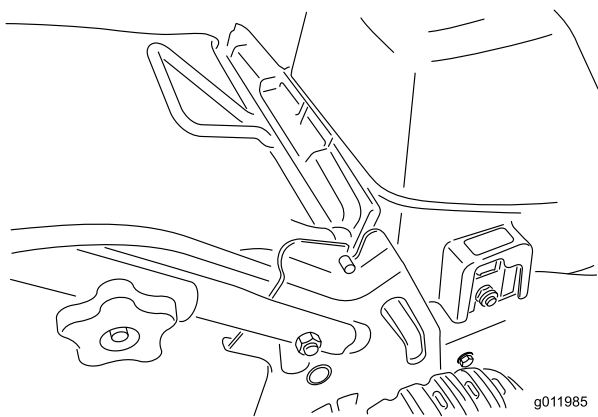

Figure 12
2. Inset the grass bag handle onto the notches on the handle brackets (Figure 12).